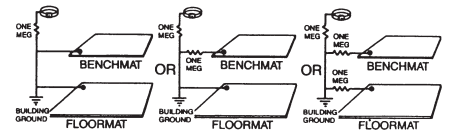

Figure 12. Proper wiring diagrams for conductive and dissipative ESD workstations.
8. Your completed installation of a Charleswater ESD workstation should comply with one of the electrical diagrams illustrated in Figure 12.